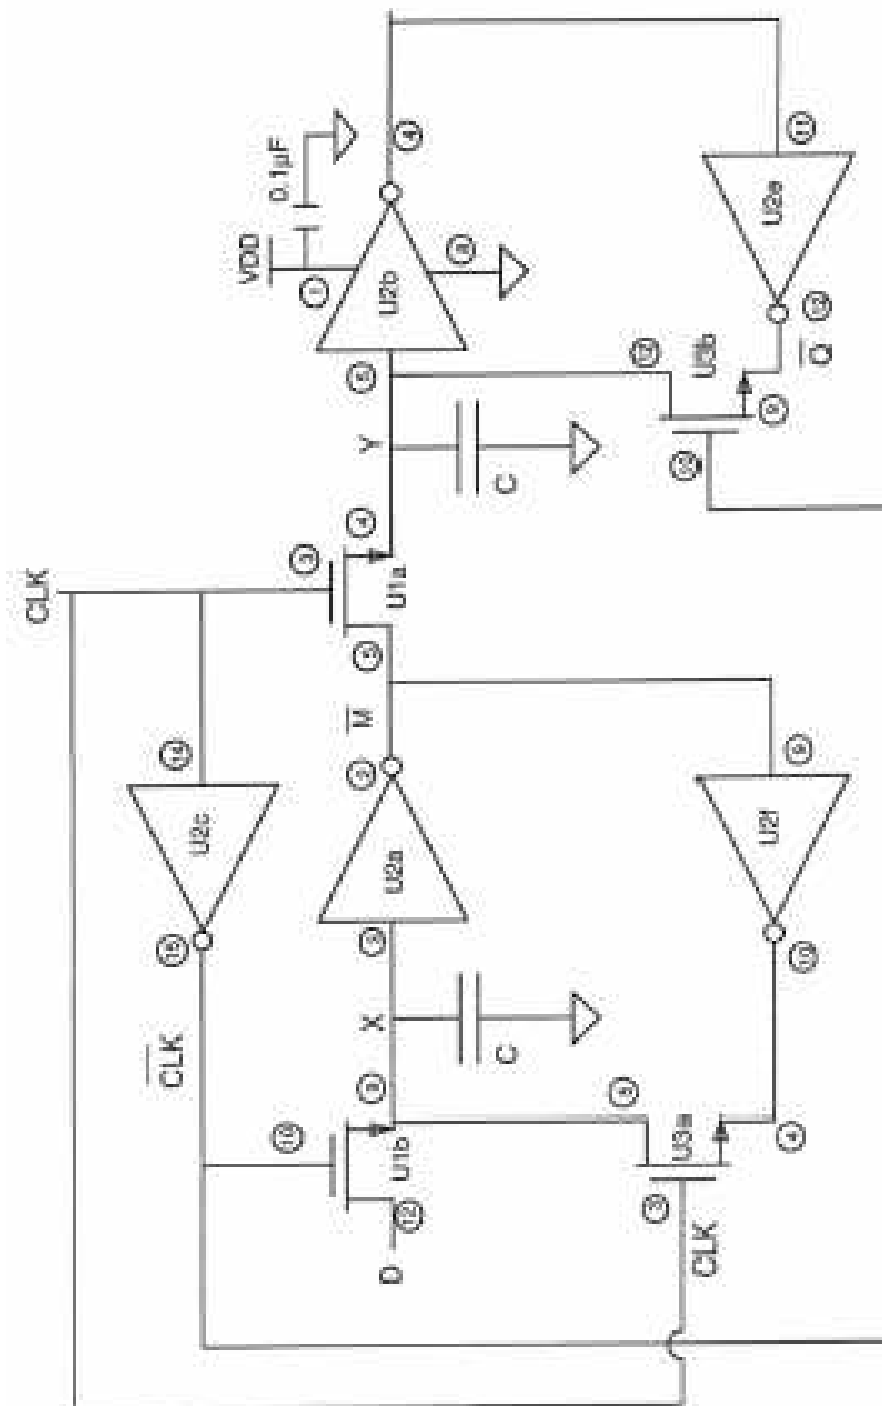

Figure 3: Static MOS D Flip-Flop schematic diagram.
Step 7 Add the extra circuit shown in Figure 3 that will convert the dynamic flip-flop in Figure 1 to a static flip-flop. Use the available inverters in U2. Add U3, another CD4007, and connect its pin 14 to +15 V and pin 7 to GND.